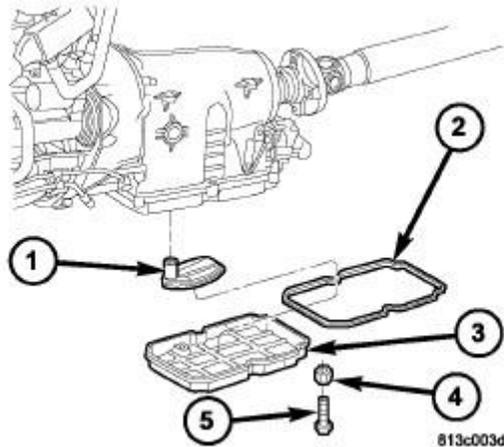

Fig. 163: Oil Pan, Gasket, Filter, Retainer & Bolt
3. Remove the bolts (5) and retainers (4) holding the oil pan to the transmission. Refer to **Fig. 163**.
4. Remove the transmission oil pan (3) and gasket (2) from the transmission.
5. Remove the transmission oil filter (1) and o-ring from the electrohydraulic control unit.
6. Clean the inside of the oil pan (3) of any debris. Inspect the oil pan gasket (2) and replace if necessary.
7. Install a new oil filter (1) and o-ring into the electrohydraulic control unit.
8. Install the oil pan (3) and gasket (2) onto the transmission.
9. Install the oil pan bolts (5) and retainers (4). Torque the bolts to 8 N.m (70 in.lbs.).